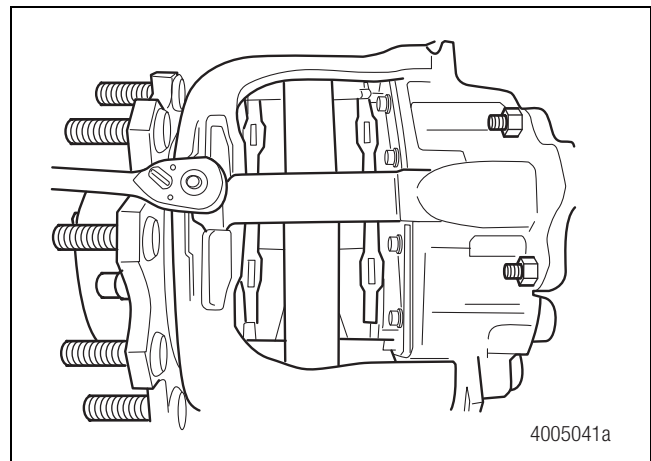

Figure 4.5
1. Use a 17 mm wrench to remove the pad retainer bolt. Remove the pad retainer. Figure 4.5.